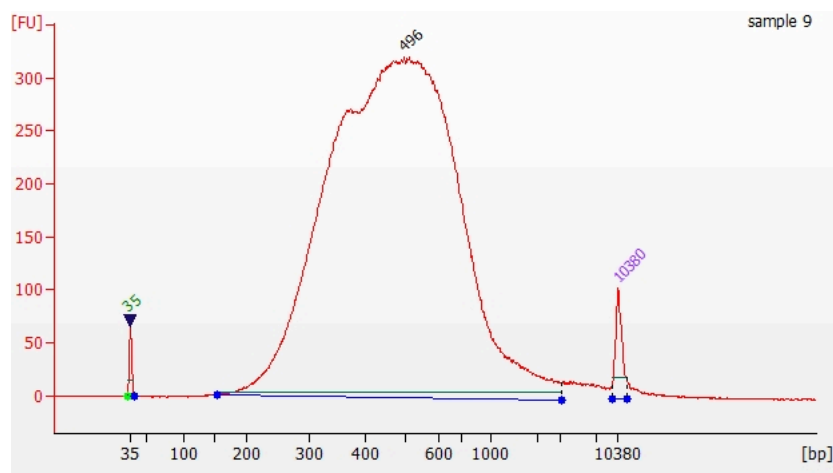

Figure 3 Agilent 2100 Bioanalyzer results of fragmentation product by double-sided size purification
When single size selection is selected, the peak size of the single size product is approximately 600 bp - 850 bp. The size distribution of the fragments is similar to Figure 3 on page 24.
**i** Different instruments may have some differences in test results. Figure 3 shows the results in Agilent 2100. Take 1  $\mu$ L of elute product for Agilent 2100 High Sensitivity test. The peak size of the selected fragments is approximately 400 bp - 600 bp.
For example: 900 ng gDNA dissolved in TE Buffer (pH 8.0), when fragmentation time is 8.5 min, the size distribution of the fragments is shown in Figure 3.